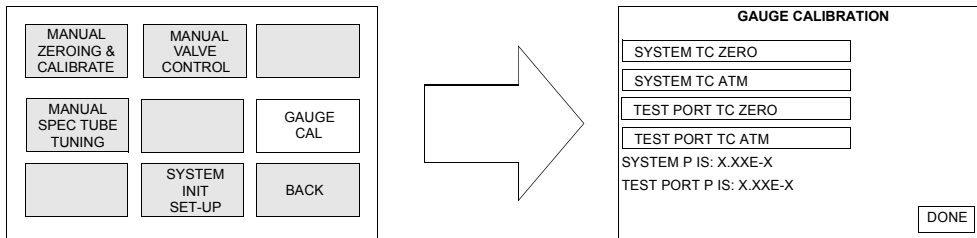

Figure 4-9 Gauge Calibration Screen
Touch the **GAUGE CAL** box to display the Gauge Calibration screen (Figure 4-9), which provides the ability to perform a calibration on either the system pressure thermocouple (TC) or the test port thermocouple (TC) gauge.
7. Move to the GAUGE CALIBRATION screen (Figure 4-9) if you are not already there.
7. Move to the GAUGE CALIBRATION screen (Figure 4-9 on page 4-8) if you are not already there.